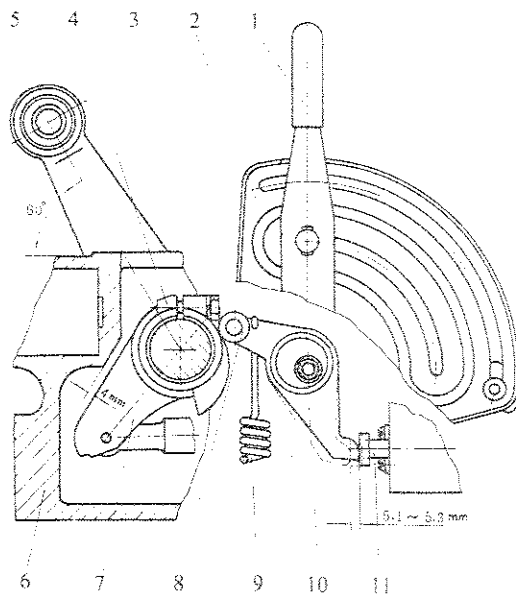

Fig. 5-12 Adjustment of the cam of position control
(3) For the adjustment of position control cam, please see Fig. 5-12.